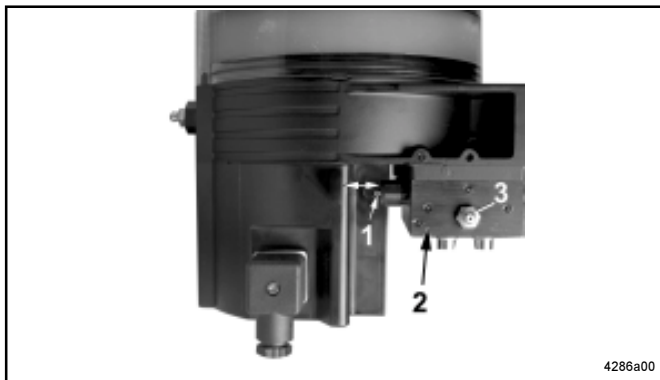

Fig. 12 _ QLS 321 with back position of the SSV divider block
- SSV divider block mounted on the back (see fig. 12)
- If this is the case, trigger an additional lubrication and observe the control pin on the divider block (fig. 12). If the control pin does not move, either the system is blocked or the reservoir is empty, see fault indication "LL" on the display.